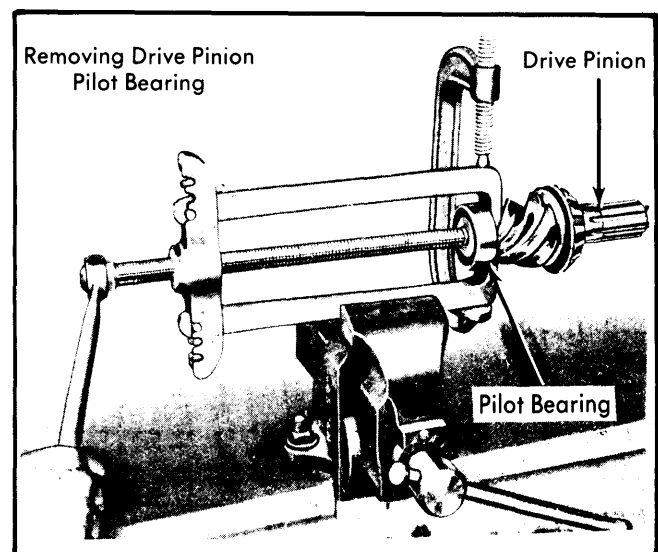

Fig. 2 Drive Pinion Pilot Bearing Removal With Puller
5) Tap drive pinion shaft out of cage with a soft hammer or press shaft from cage. Remove spacers from shaft and remove inner bearing with a suitable puller (DD-914P). Remove pilot bearing lock ring and remove bearing using a suitable puller (C-549). See Fig. 2. Remove oil seal from bearing cover.